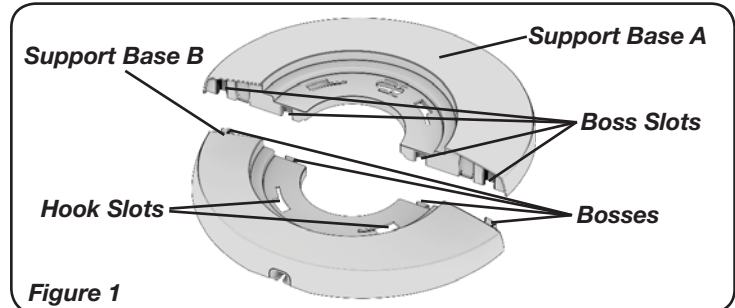
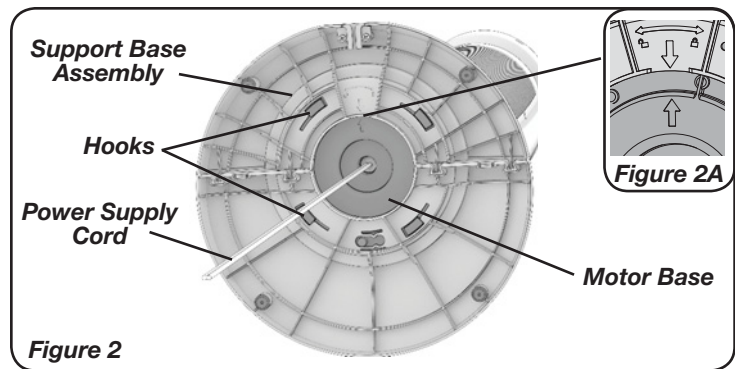

Figure 1
Figure 2
2. Assemble the Support Base Halves by interlocking the *bosses* on *Support Base B* into the *Boss Slots* on *Support Base A*. (Figure 1)
3. Align the *Support Base Assembly* with the *Motor Base*. Thread the *Power Supply Cord* through the large hole in the center of the *Support Base Assembly*. Make certain to align the *Hook Slots* (Figure 1) on the *Support Base Assembly* with the *Hooks* on the *Motor Base*. The alignment arrow on the *Support Base Assembly* should align with the alignment arrow on the *Motor Base* (Figure 2 & Figure 2A).